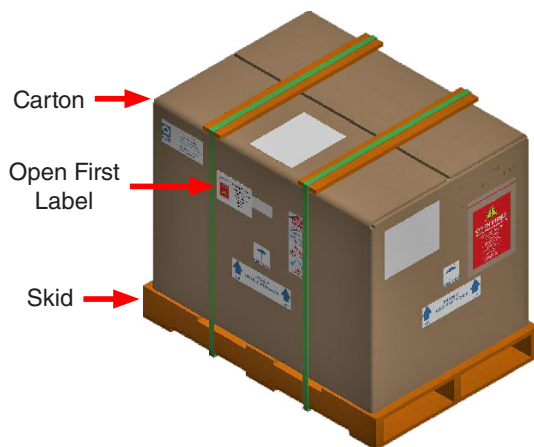

Figure 5.1a: This packaging has a carton banded to a wooden skid
- Q-SUN Xe-1-B testers are shipped in one of two types of packaging (Figure 5.1a and Figure 5.1b).